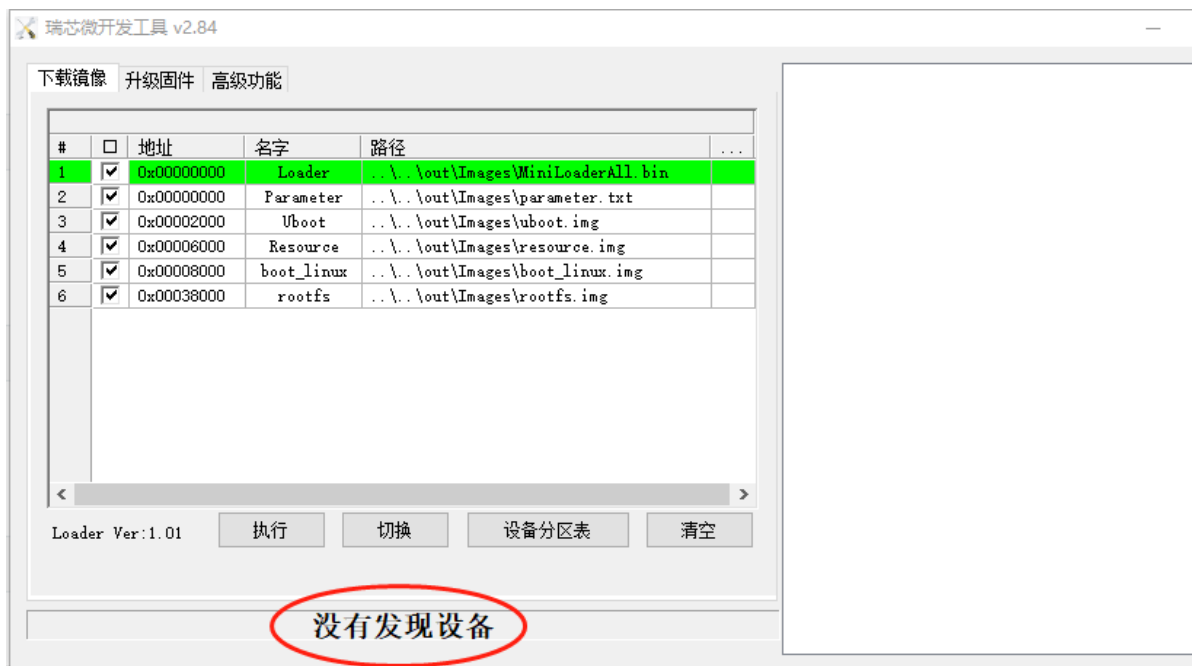

Figure 1-1: No device be found
- No device be found (as shown in Figure 1-1): Indicating that the development board is not in flash mode.